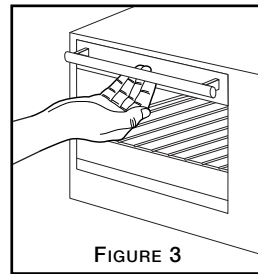

FIGURE 3
Step 1: Grab the center of the handle underhanded with fingertips (See Figure 3).